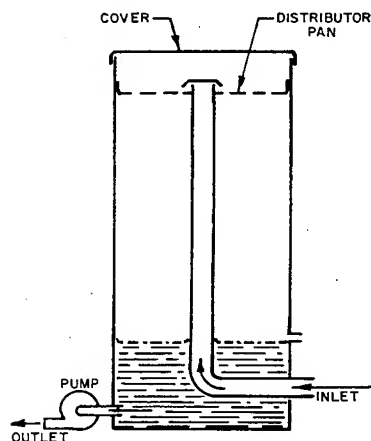

Figure 8 – Chiller Tank
2. Remove louvered section of top casing then remove cover from top of chilled water tank. See Figure 8.